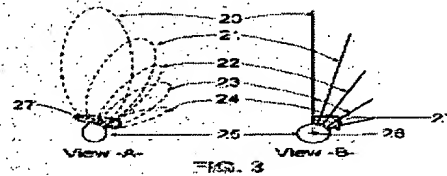
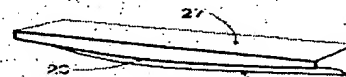

FIG. 3
FIG. 4
Solving the latitude adjustment problem required the development of 3-dimensional contours which could change their bearing diameter as some function of latitude angle. Figure 1-4 show the concept development.... with the key development being the sweeping of many radii of figure 3 onto a small bearing segment (item 27). This is shown in Fig 4, and becomes the rear bearing block of the Johnsonian design...and is the basis for filed US and worldwide patent applications.